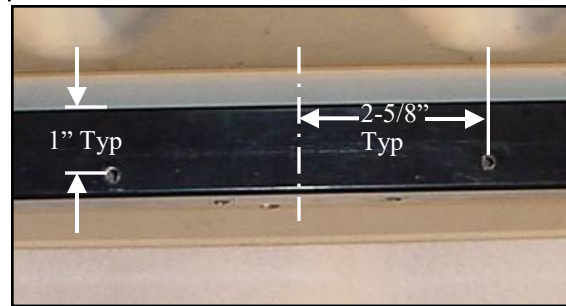

Figure 2.2 (view forward from center of seat)
2.2 Per fig. 2.2, mark the center of the vehicle from side to side on the inside surface along the top of the front roof support tube. Then mark hole locations 1" down from the top of the tube and 2-5/8" to either side of center.